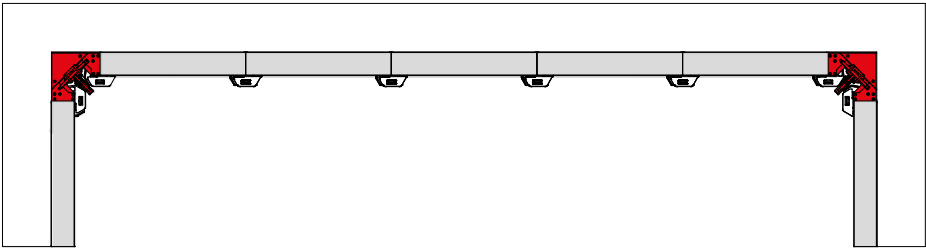

Fig. 39.1
- 1. Remove the AS assembly locks connecting the stripping corners to the panels (Fig. 39.1).